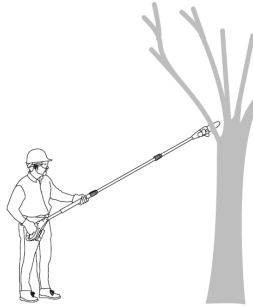

Fig. 31a
1. Always hold the product firmly with both hands on gripping surface and handle grip (A17). Never operate this product using only one hand. (See Fig. 31a)